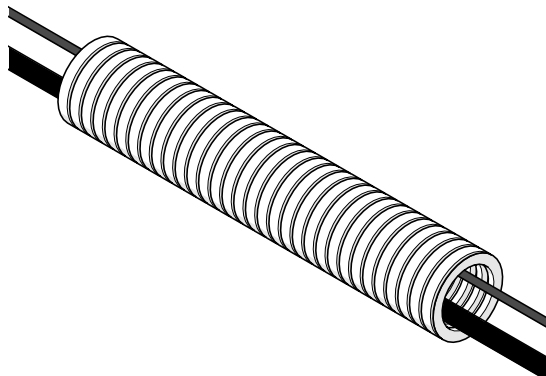

Fig. 83 - Route cables and hoses through conduit
3. Open the conduit and place cables and hoses in the conduit (*Fig. 83*).